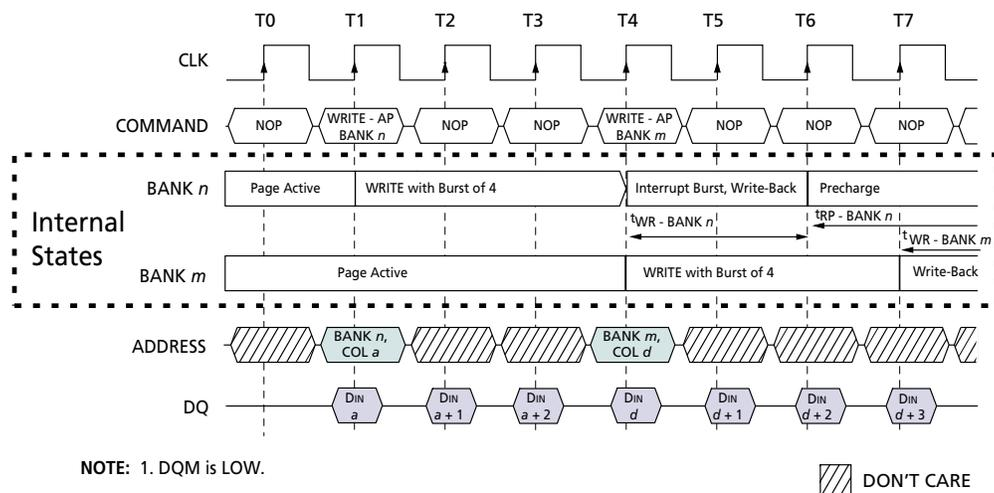

Figure 27
- Interrupted by a WRITE (with or without auto precharge): A WRITE to bank m will interrupt a WRITE on bank n when registered. The PRECHARGE to bank n will begin after t^{WR} is met, where t^{WR} begins when the WRITE to bank m is registered. The last valid data WRITE to bank n will be data registered one clock prior to a WRITE to bank m (Figure 27).